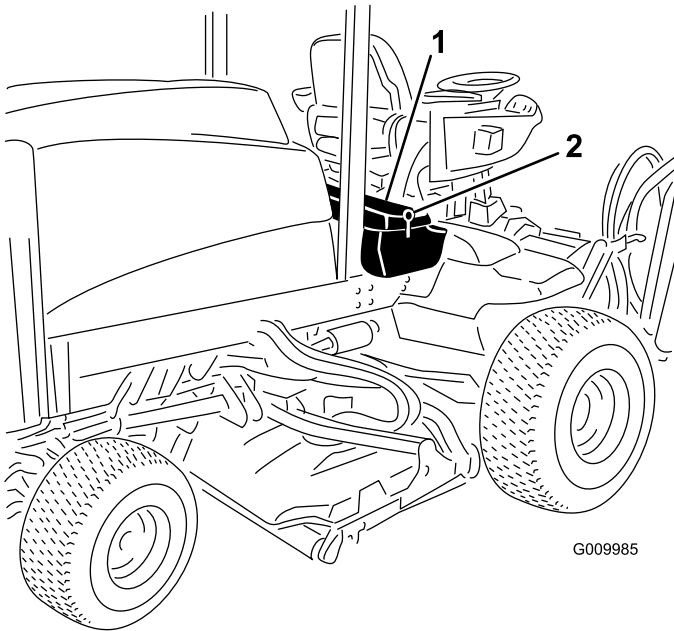

Figure 39
1. Unlatch and raise the operator's console panel (Figure 39).